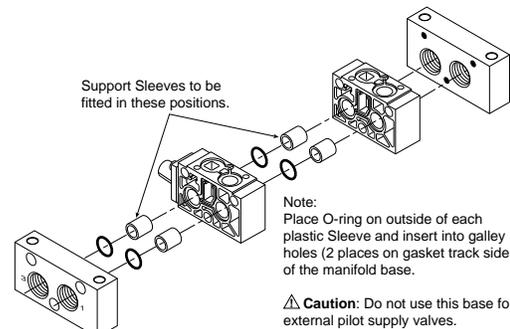

Figure 2:
**3-Way Valves:** (See Figure 2)